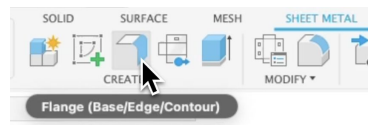

Figure 1.1
- Navigate to the Sheet Metal workspace and select '**Create Flange**' (see Figure 1.1).